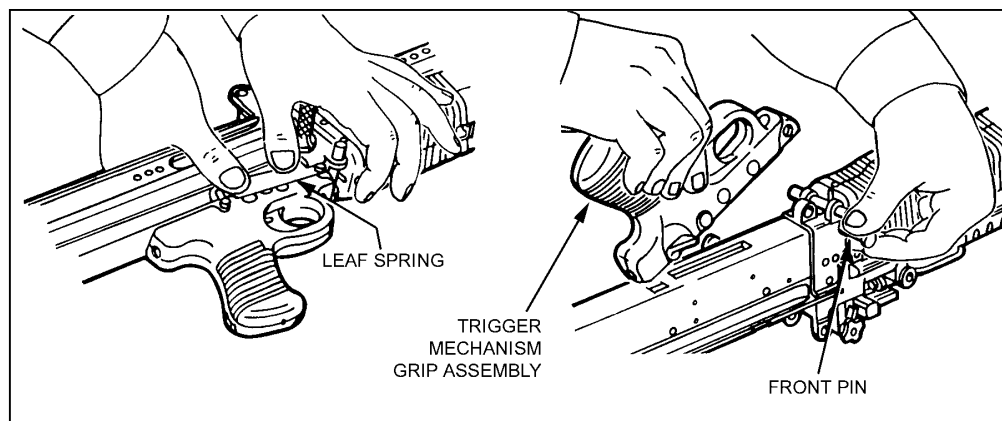

Figure 2-13. Removal of the trigger mechanism grip assembly.
e. **Removing the Trigger Mechanism Grip Assembly.** The gunner pushes in and removes the flat leaf spring. He pushes out the *front pin* and slides the trigger mechanism grip assembly slightly forward, then pulls it out to remove it (Figure 2-13).